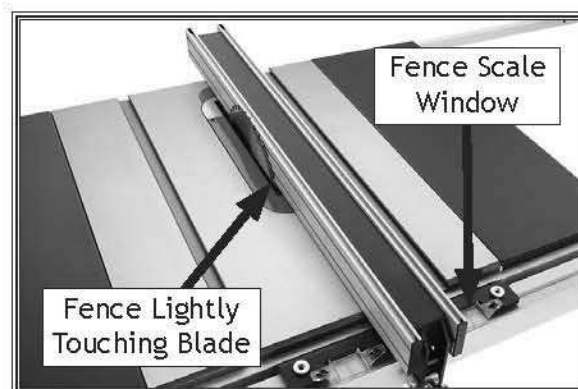

Figure 29. Fence scale calibration.
21. Slide fence so it lightly touches right side of blade (see **Figure 29**). Do not yet lock fence.
22. Nudge fence rail so zero mark of scale (on right) lines up with cross-hair in fence scale window (see **Figure 29**).